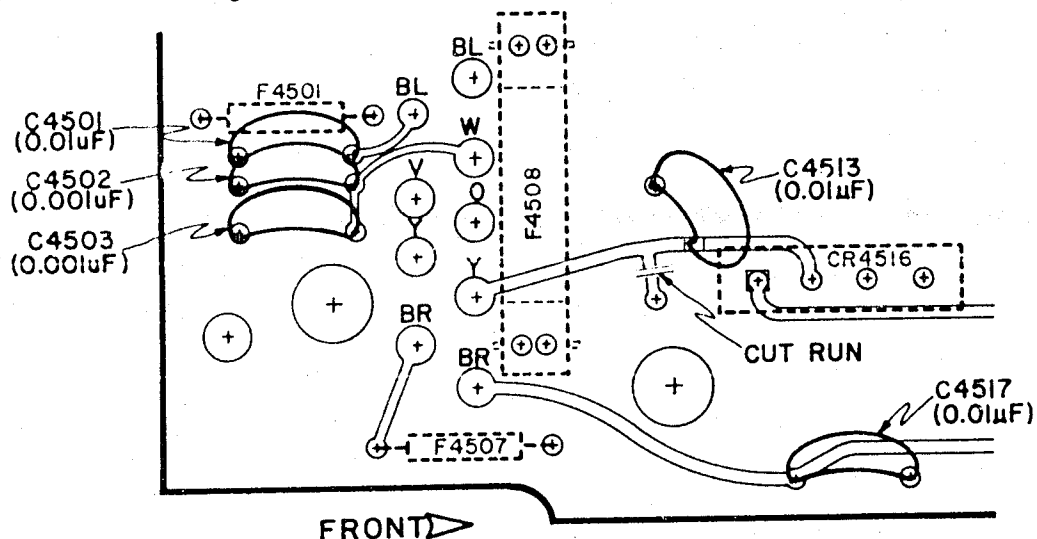

Fig. 3. Partial Interface (A4) Circuit Board.
- () 2. Add C4501, C4502, C4503, C4513, and C4517 as follows (see Fig. 3 for location):
- () 3. If present, cut the branch circuit board run adjacent to CR4516 as shown in Fig. 3.